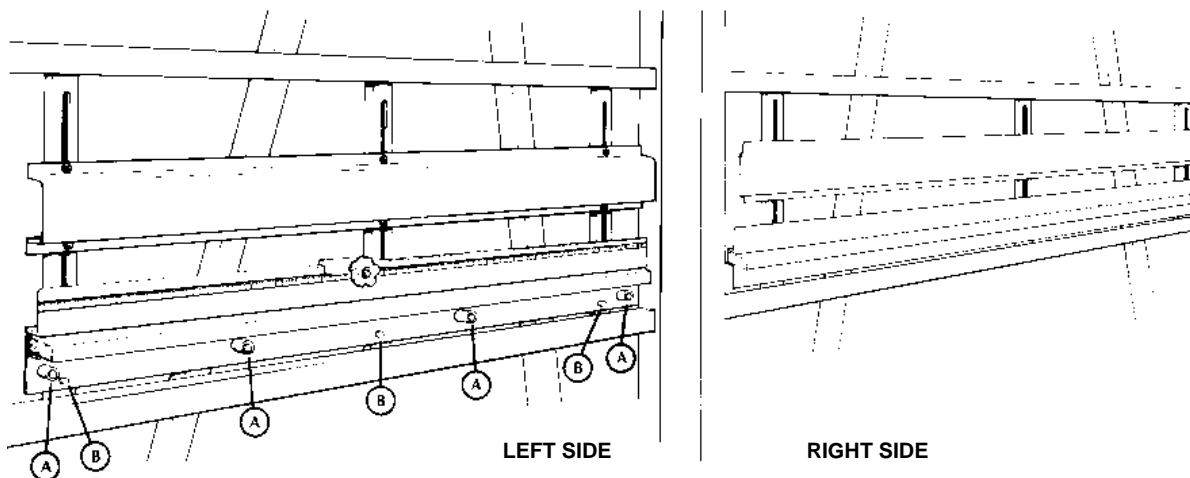

Figure 13: Mounting the Midway Fence
2. Set the complete right-hand fence assembly onto the tool frame as shown in Figure 13.